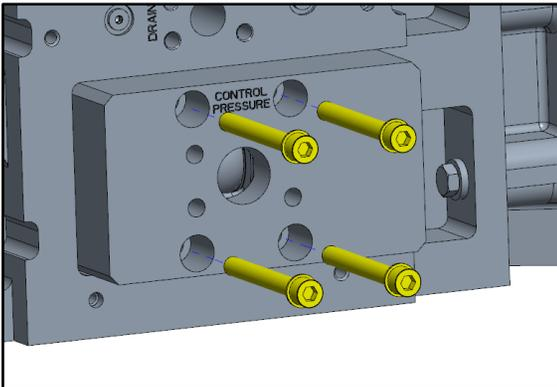

Figure 4-8. Shuttle Valve Installation Screws
5. Apply anti-seize to four screws and install into the shuttle valve. Torque to 47-53 LBFT (5.3-6.0 Nm) using **3/8 in** hex head wrench (Figure 4-8).